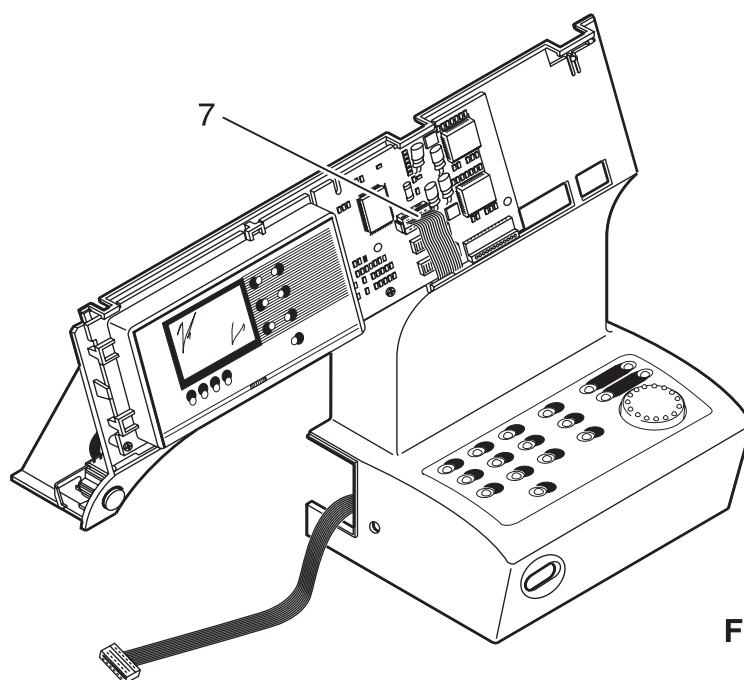

Fig. 6
- Remove connection plug 7 from the circuit board (fig. 6).